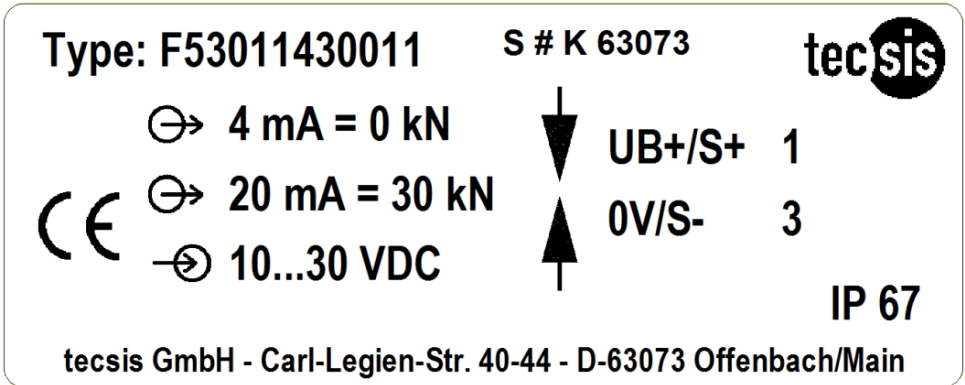

Fig. 1 Name plate Standardversion - 1x connecting plug – output signal 4...20 mA
- The output signal is noted on the name plate (Fig. 1 to 3, p. 30-31).
- The connection assignments are also noted on the name plate (Fig. 1 to 3, p. 30-31) and can also be found in the section entitled "Electrical connection". The polarity must be correct at all times.
The plug or cable connection assignments can be found on the name plate (Fig. 1 to 3, p. 30-31). Unless otherwise agreed, the following assignments are used as standard.